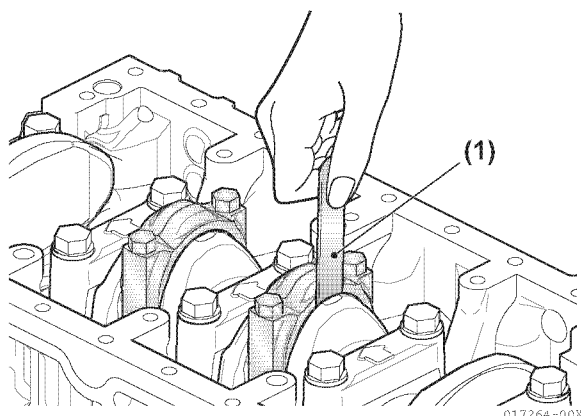

Figure 5-97
- Check the side clearance as shown (Figure 5-97).